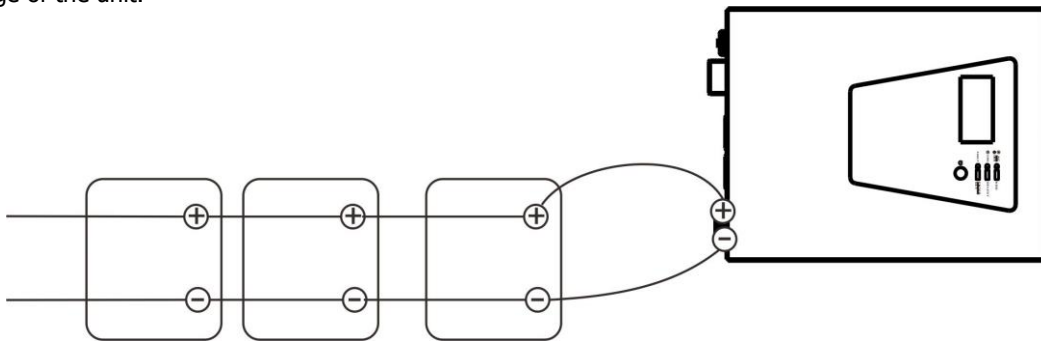

Fig 4
3) Multiple batteries in parallel connection(Refer to Fig. 4): Each battery's voltage must be equal to the Nominal DC Voltage of the unit.